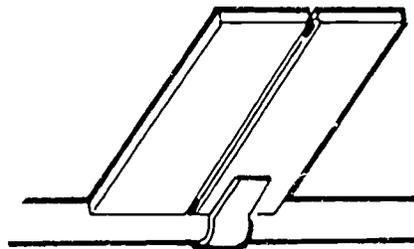

FIGURE 5
- G. Place metal in overhead position (Figure 5)